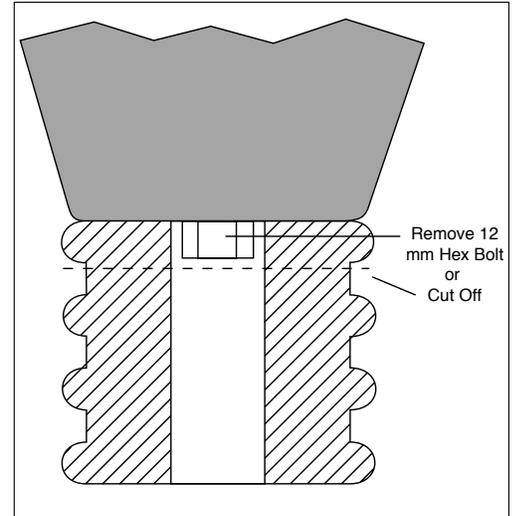

Figure 1
3. Cut off the exposed portion of the rubber jounce bumper (Fig. 1).